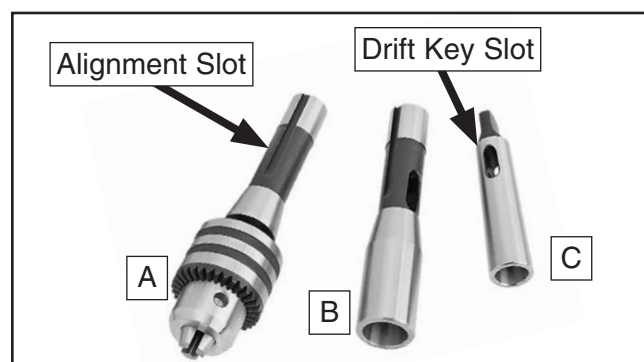

Figure 30. Spindle tools and arbor included with Model G0762.
The Model G0762 includes the following spindle tools (see **Figure 30**):
3. Position tool alignment slot (see **Figure 30** on previous page) with pin inside spindle, then insert tooling into spindle until it contacts drawbar.